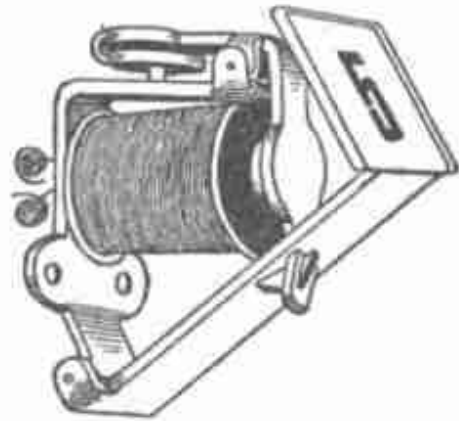

Fig. 35
12. *Annunciator* (Fig. 34).—We live in a fifth-floor apartment. When we push the button to call the elevator a No. 5 appears in the annunciator in the elevator car. This tells the elevator boy where the call comes from. Take out two or three screws and the annunciator opens, revealing a series of electromagnets like the one shown in Fig. 35. When an electric current passes around the coil it pulls back an iron catch and allows a number to drop so as to show through a small window. The elevator boy, having noted that the call is from the fifth floor, pushes up the number and the iron catch holds it until the coil is magnetized again by an electric current.